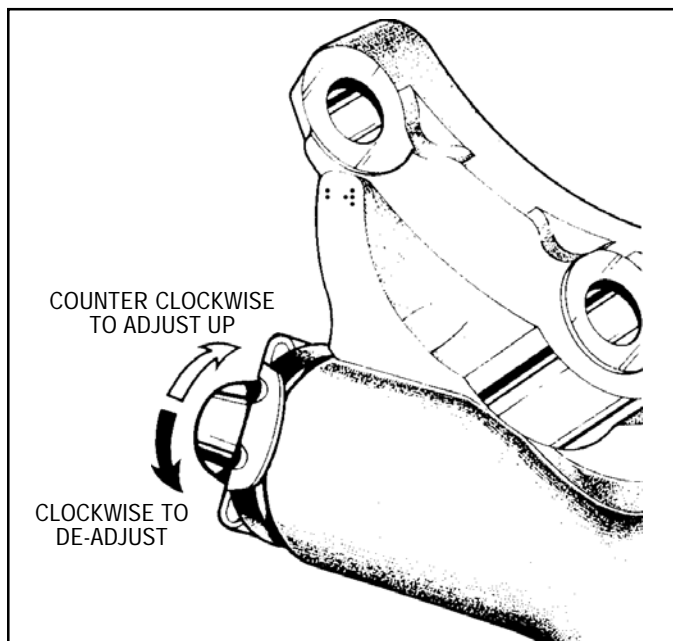

FIGURE 11 - ADJUSTING ADJUSTER MECHANISM
- B. Using the backing plate (dirtshield) as a fulcrum, *Figure 11*, turn the override wheel in a **CLOCKWISE** direction, as viewed from the override wheel end until the lining clears the lip in the drum. Watch the lining through the lining inspection hole, *Figure 26*.